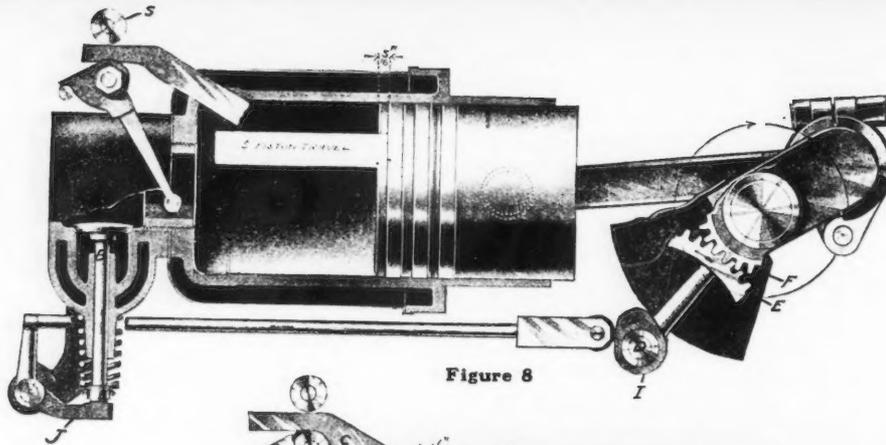

Figure 8
The piston, traveling as indicated by the arrow, compresses the charge, which is ignited at or before the end of this stroke by the spark plug (see electrical explanation), and drives the piston forward to the position as in Fig. 8.
Fig. 8 illustrates the end of the third or working stroke of the cycle where the exhaust valve commences to open $5/16$ inch before the center. During the fourth or exhaust stroke the gases are expelled from the cylinder through the valve (B). The exhaust valve (B) is operated by the cam (1) which pushes the exhaust rocker arm (J) and lifts the exhaust valve (B).
Next insert a rule allowing it to bear firmly on the piston. Without removing the measuring device move the fly wheel forward and note the distance the rule has traveled. This, on a new engine would be $5/16$ of an inch (as shown in Fig. 8, page 17), but if the engine had been running for some time the valves would be expected to be slightly out